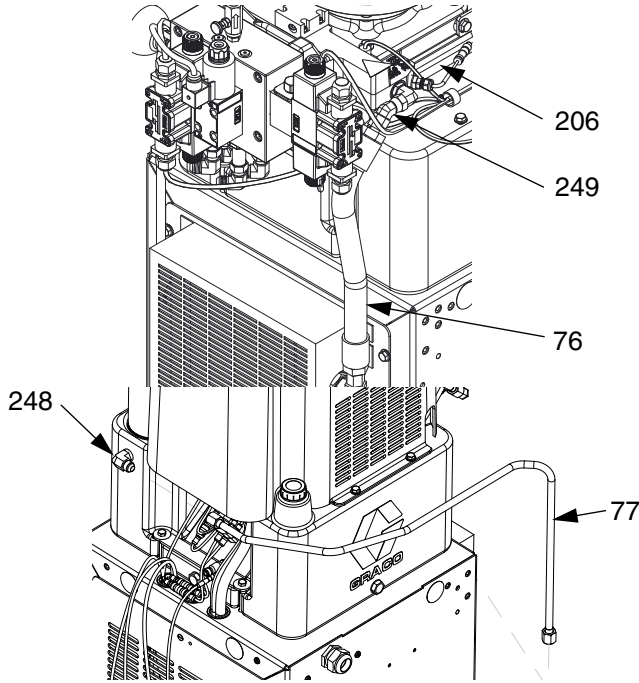

FIG. 23: Heat Exchanger Inlet and Outlet Hoses
8. Connect heat exchanger inlet hose (76) and fitting to elbow fitting (249) on hydraulic housing (206). Connect heat exchanger outlet hose (77) and fitting to elbow fitting (248). See FIG. 23 on page 28.